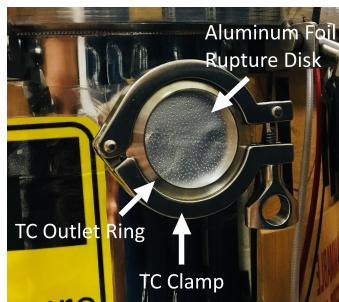

Figure 1: Ensure the rupture disk is present and intact
5. Ensure the vessel rupture disk is intact and positioned correctly (See Figure 1)